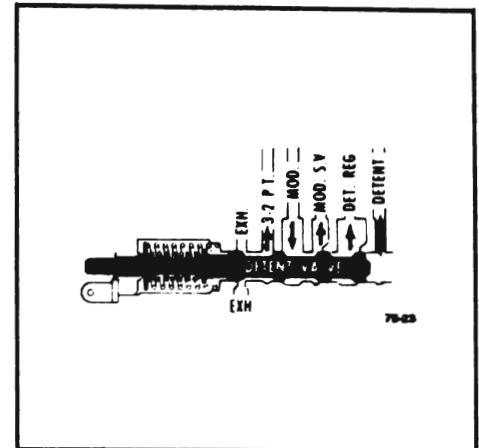

Figure 75-23 - Detent Valve
k. Detent Valve (Actuated by Cable Linkage From Throttle Linkage) (See Figure 75-23)